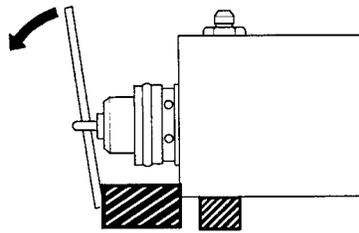

Figure 15. Removing the piston.
- b. It may be useful to use a pry bar as a lever as shown in Figure 15. Be careful to not damage the piston.